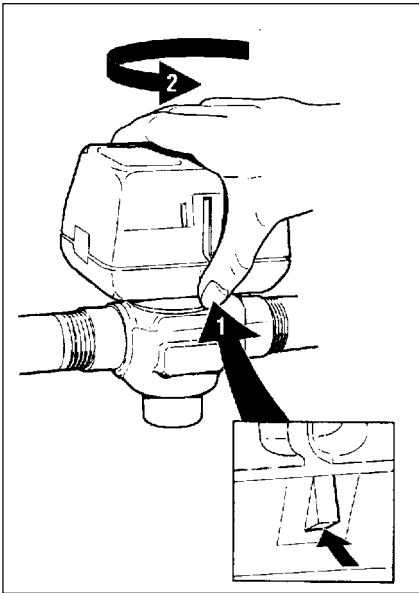

Fig. 12. Latch mechanism
- The actuator head is automatically latched to the valve (see fig. 12.) To remove lift up on the latch mechanism located directly below the red manual open lever. Press the actuator head down towards the valve body with moderate hand force and turn counter-clockwise by $\frac{1}{8}$ turn (45 degrees) simultaneously. Lift the actuator head off the valve body.